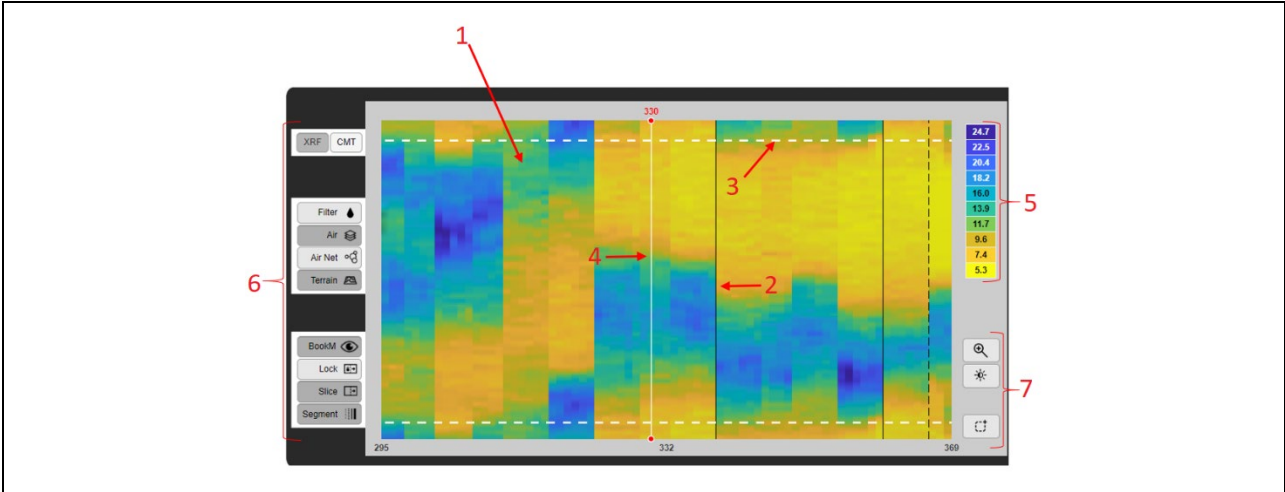
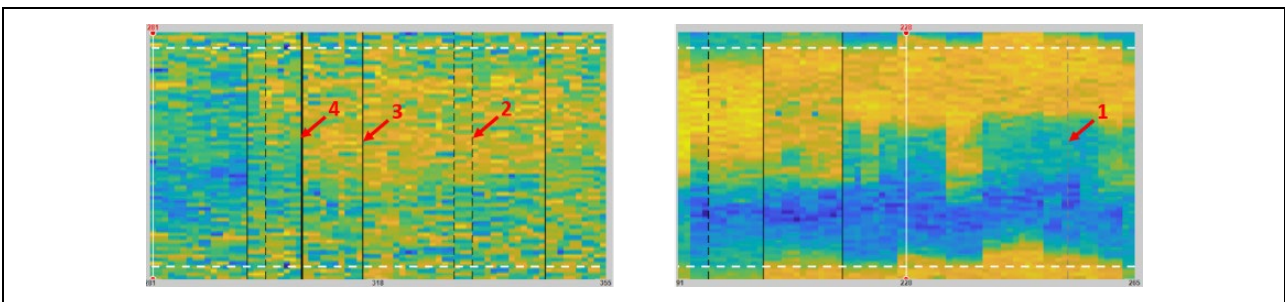

Figure 73: XRF/CMT Map
Figure 74: Time Reference Lines In XRF/CMT Map
The lines (#2 in Figure 73) represent time differences between slices. A gray dashed line marks a 0-60 sec jump (#1 in Figure 74). A black dashed line marks a 60-600 sec jump (#2 in Figure 74). A thin solid black line marks a 600-3600 sec jump (#3 in Figure 74). A thick solid black line marks a >3600 sec jump (#4 in Figure 74).
The **map edges** are duplicated cyclic upwards and downwards to avoid missing features in edges (#3 in Figure 73).
The **current slice** displayed in profile view is marked in the XRF/CMT map (#4 in Figure 73) and the slice number is written in red. The current slice mark can be moved in several ways:
The **color scale** of XRF/CMT maps (#5 in Figure 73) indicated the distances seen in the slices composing the maps, the map dynamic range while yellow indicates smaller distance and blue larger ones.
**XRF/CMT map control** (#6, #7 in Figure 73) is detailed in Table 4